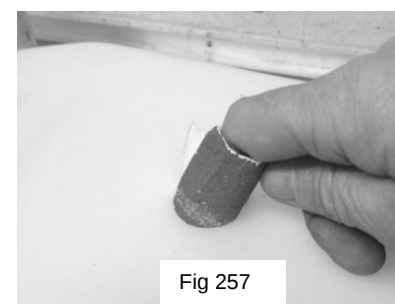

Fig 257
- c) Any flashings should be dressed out with abrasive paper so hole edges are nice and smooth – Fig 257. Then remove all debris from inside the tank.